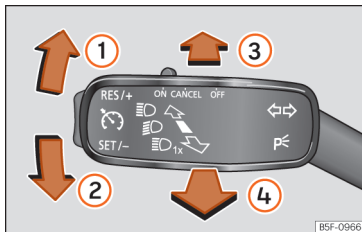

Fig. 95 Turn signal and main beam lever.
- From the base position, press the turn signal and main beam headlights lever forwards »» Fig. 95 .
- **OR:** while the main beam is on, pull the turn signal light and main beam headlights lever forwards »» Fig. 95 .